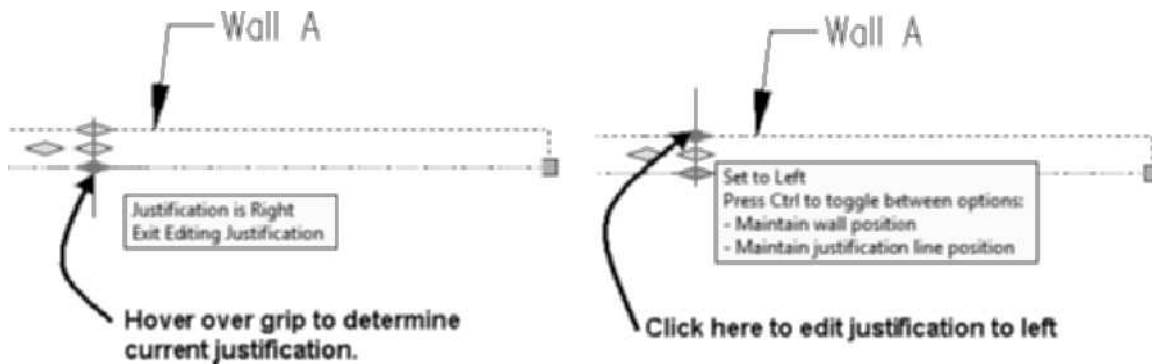

FIGURE 2.35 Justification markers displayed for the Edit Justification command
8. Select **Wall A**, as shown in Figure 2.35, and choose **Edit Justification** from the Cleanup slide out panel. Move the pointer over the gray justification marker to identify the justification of the wall, as shown in Figure 2.35.
9. Move the pointer over the **Left** justification marker to display the tip and then click on the **Left** marker to change the justification as shown at the right in Figure 2.35.